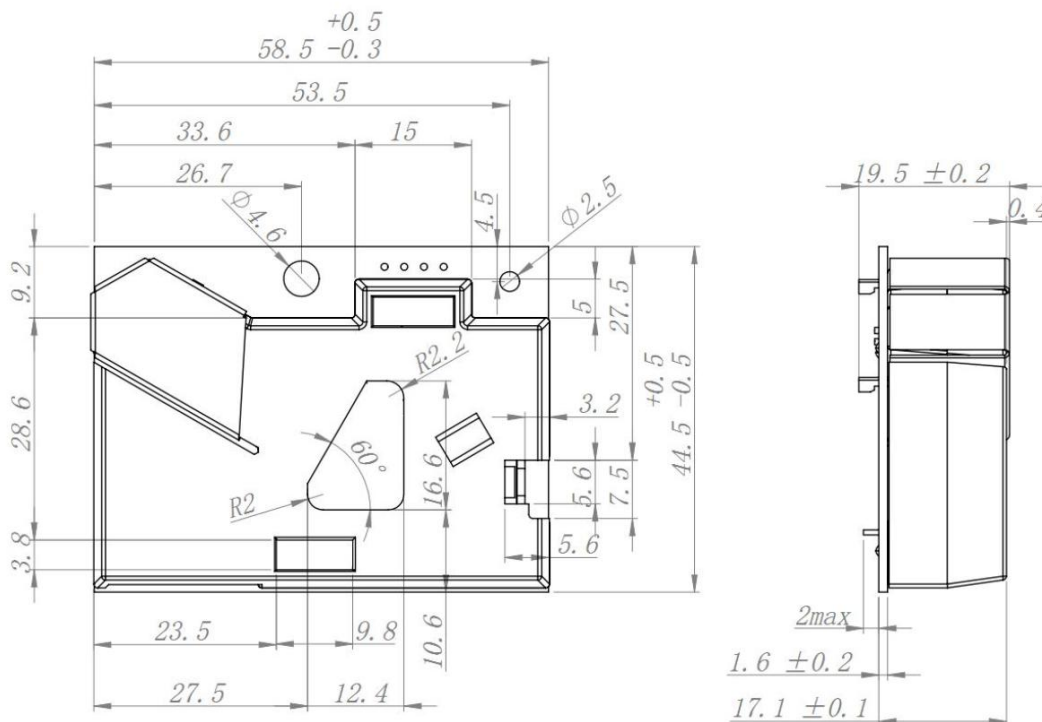

figure 1
1.3. To avoid light. Dust sensor uses a specific wavelength light LED and visible light cut off the photoelectric sensor to detect dust particles, external light radiation will affect the dust sensor optical signal, it is recommended to use the sponge cover dust sensor center triangle hole (shown in Figure 1), do not block Sensor inlet and outlet.